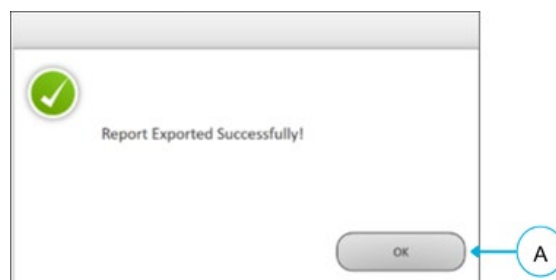

Figure 14-12: Report Exported Successfully Window
- The system displays “Report Exported Successfully” when done (**Figure 14-12**)